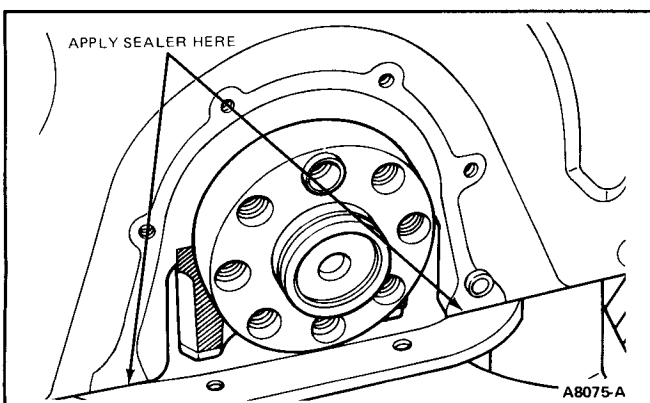

FIG. 45 Rear Cover Gasket to Oil Pan Sealing Points
7. Apply gasket sealer at points where rear cover gasket meets the oil pan gasket (Fig. 45).